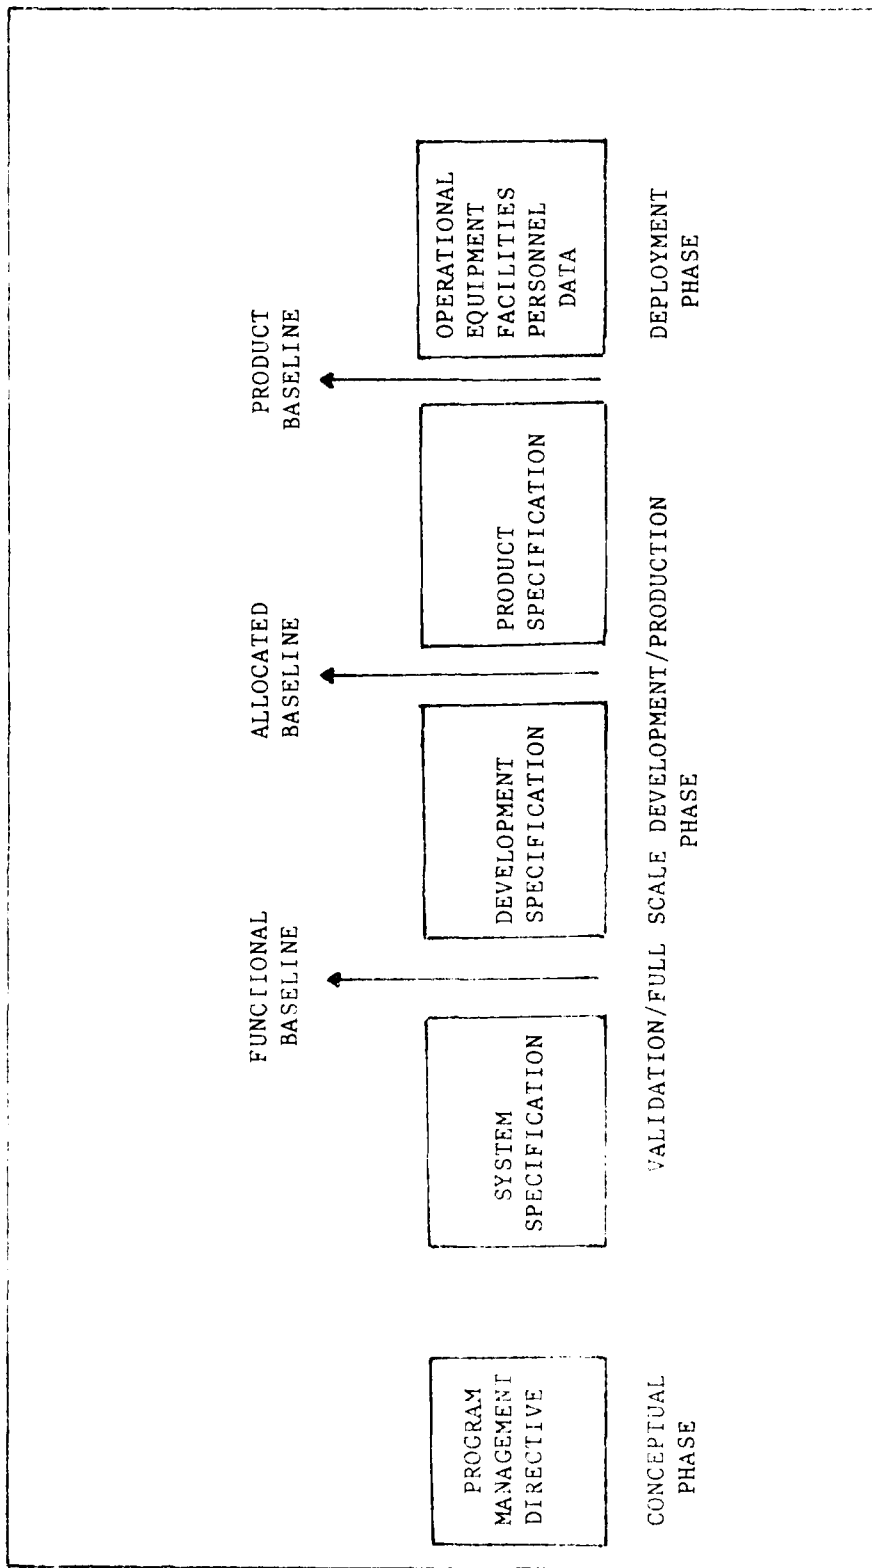

Figure 2. SIMPLIFIED PRODUCT BASELINE LIFE CYCLE
- 2) Established just prior to or during the PCA. Each of these baselines and their relationship are noted in Figure 2.